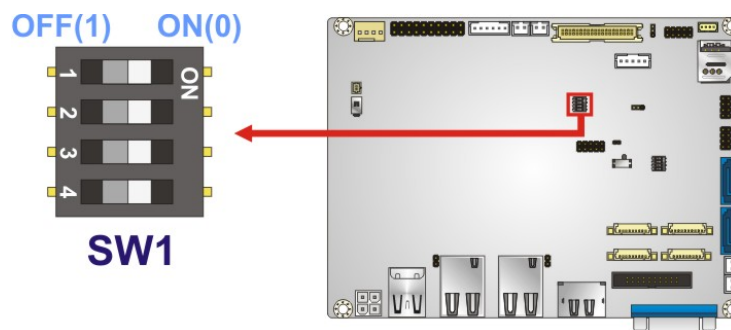

Figure 4-16: LVDS Panel Resolution Select Switch Location
- Jumper Location:** See Figure 4-16